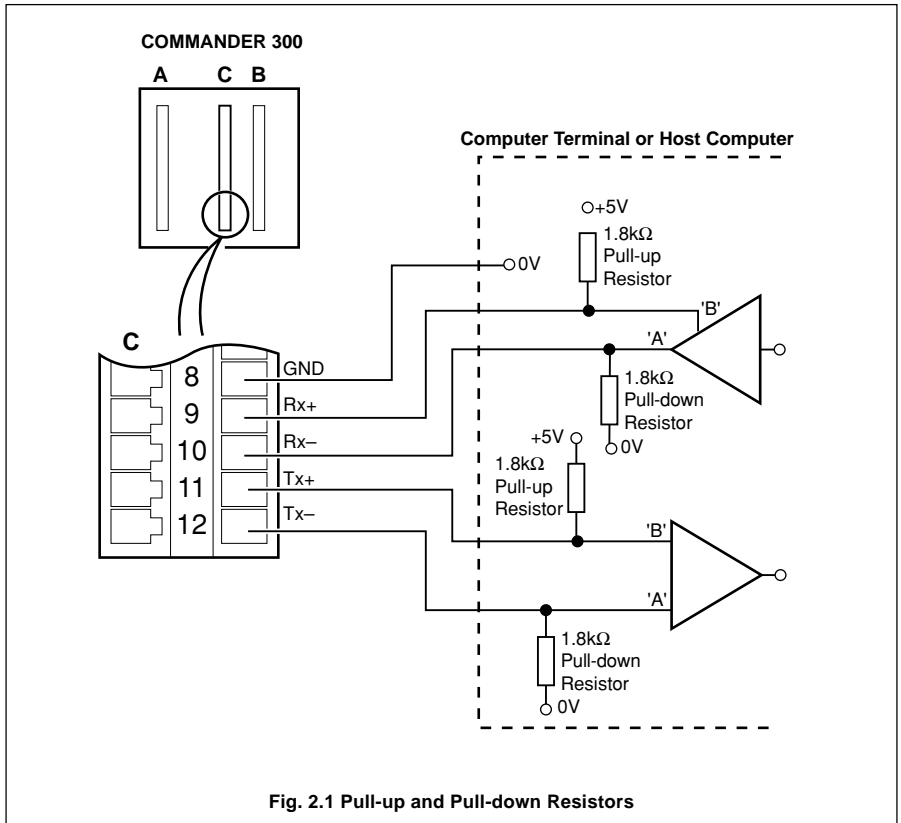

Fig. 2.1 Pull-up and Pull-down Resistors
2.3 Pull-up and Pull-down Resistors – Fig. 2.1
To prevent false triggering of the slave (COMMANDER 300) by the presence of noise when the master (host computer) is inactive, 1.8K pull-up and pull-down resistors must be fitted to the RS422/485 adaptor card – see Fig. 2.1.